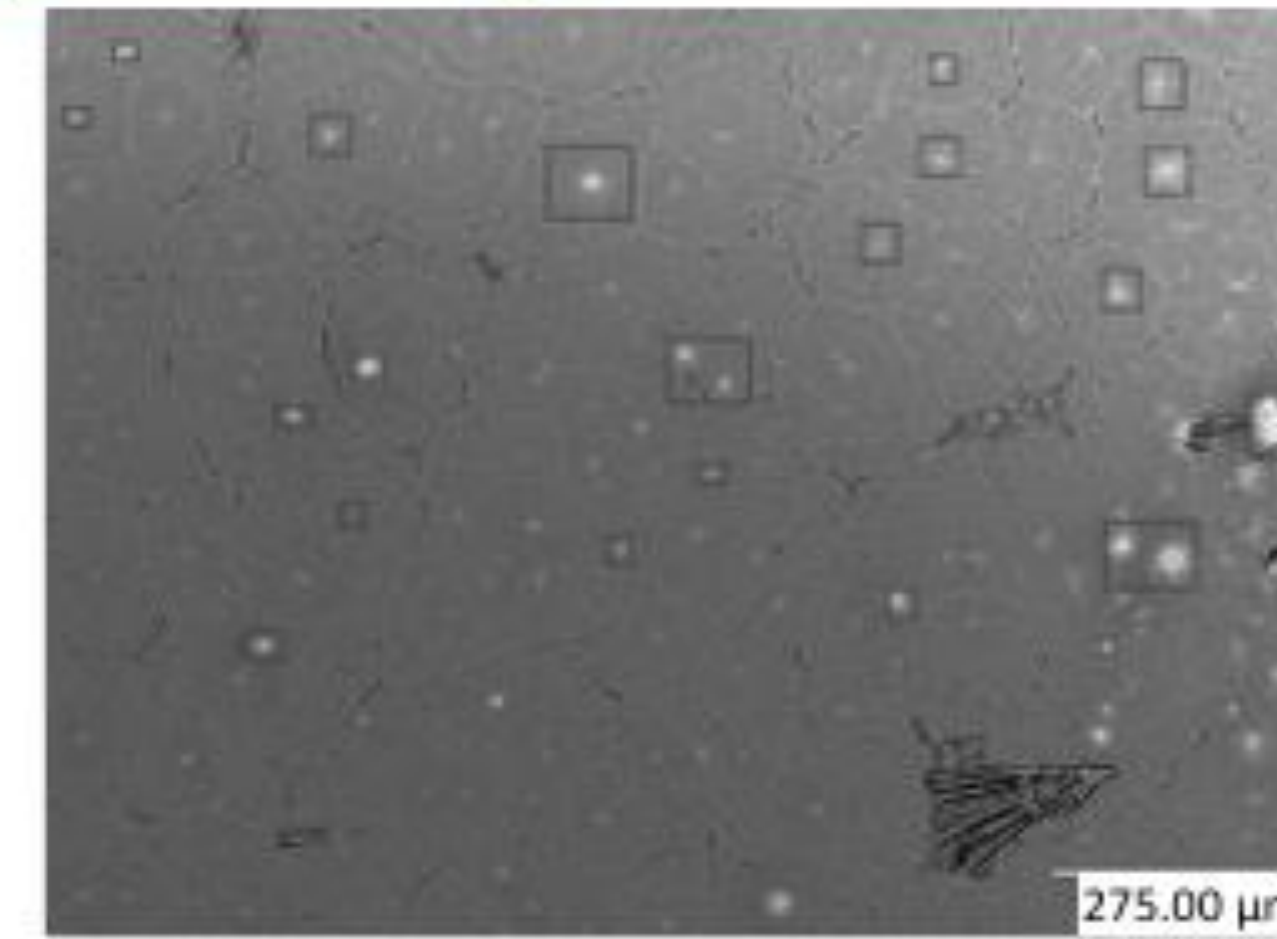

Figure 1
2. In figure 1, The code works best, it is able to identify most of the defects.